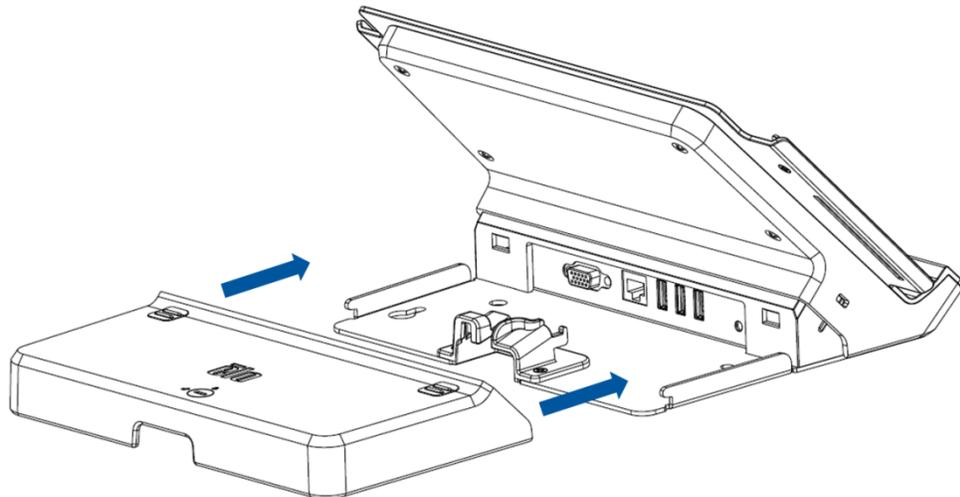

Figure 11. Sliding the back cover back onto the docking station
5. Slide the dock cable cover back onto the docking station (as shown in Figure 11 below) until you hear a click to re-install the cable cover. The dock cable cover has an opening through which cables can route through.